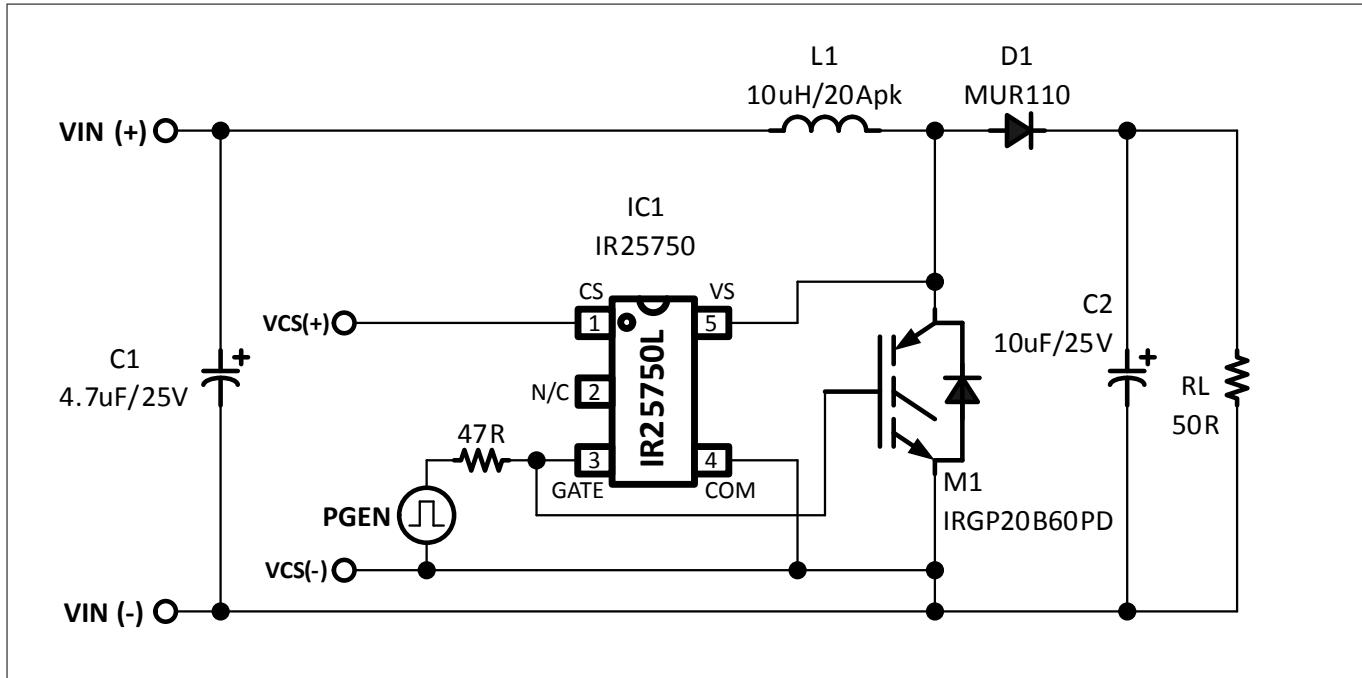

Figure 5 VCE(on) sensing test circuit
The same test circuit used for VDS(on) sensing was also used to measure the VCE(on) of an IGBT (Figure 5). The on-time of the IGBT is set using the PGEN circuit and the resulting VCE(on) voltage at the collector is measured at the CS pin (VCS+). During the on-time, the inductor current ramps up to a peak level and M1 is then turned off. During the off-time, the current flows through L1, through diode D1, through the output capacitor (C2) and load resistor (RL), and to ground. The IR25750L is connected in parallel to M1 with the collector connected to the VS pin and the emitter is connected to the COM pin.